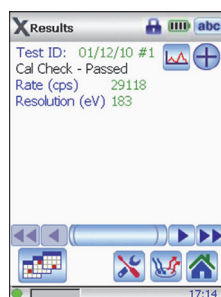

Figure 6-3 Results
10. Tap the Spectrum button () to view special results (see Figure 6-3 on page 16).